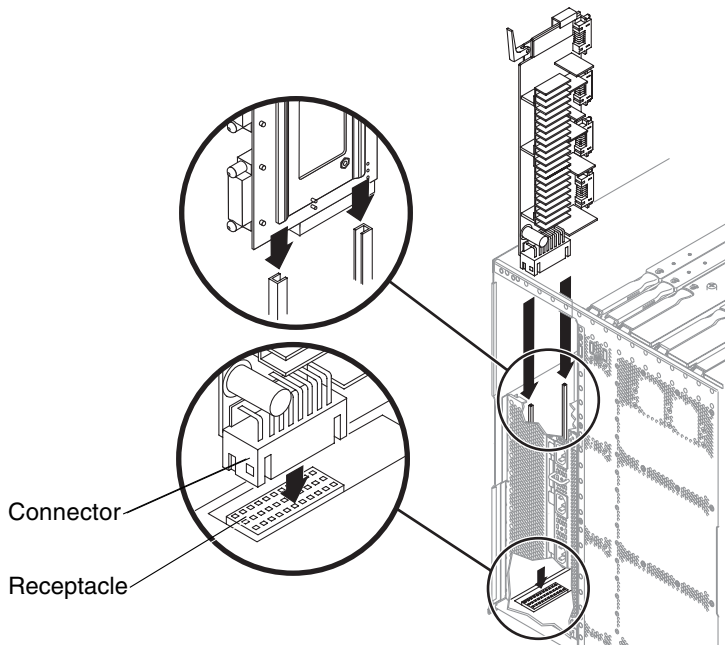

FIGURE 7-7 Inserting the Power Distribution Board
5. Align the power distribution board with the card guides. Gently slide it down to engage with the baseplane (FIGURE 7-7).